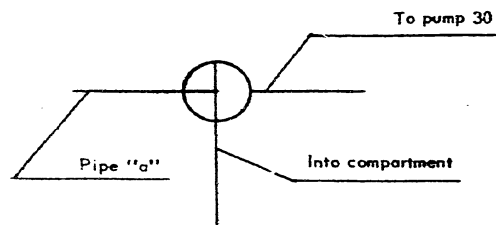

FIG. 1
2. Three-way cock 32 is set to such a position at which pipe "a" through valve 33 is connected with atmosphere (see Fig.1).